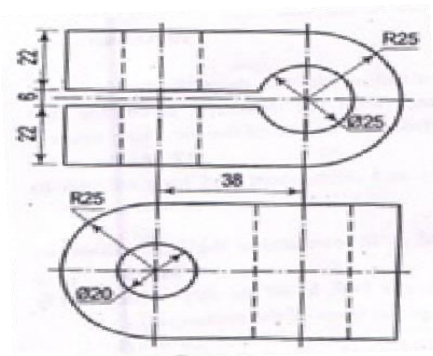

Figure 1
Q.NO: 9 Draw the isometric view of Figure 1.
Q.NO: 8 Draw the isometric view of Figure 1. [14M]